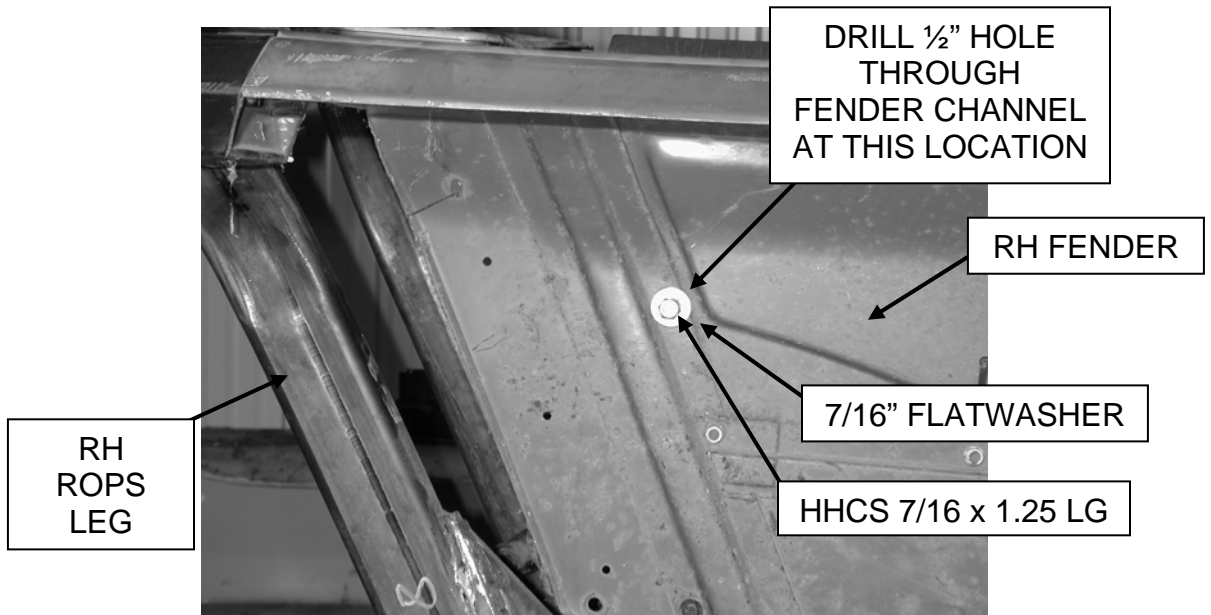

FIGURE 3
Seatbelt Installation (Refer to Figures 3 & 4)
- 10) Layout and drill (1) $\frac{1}{2}$ " diameter hole through each fender as shown in Figure 3.
- 11) Install the seat belt to each fender using (2) $\frac{7}{16}$ -14unc x 1.25 grade 5 bolts, (4) $\frac{7}{16}$ " flat washers and (2) $\frac{7}{16}$ -14unc grade 5 nylock nuts.